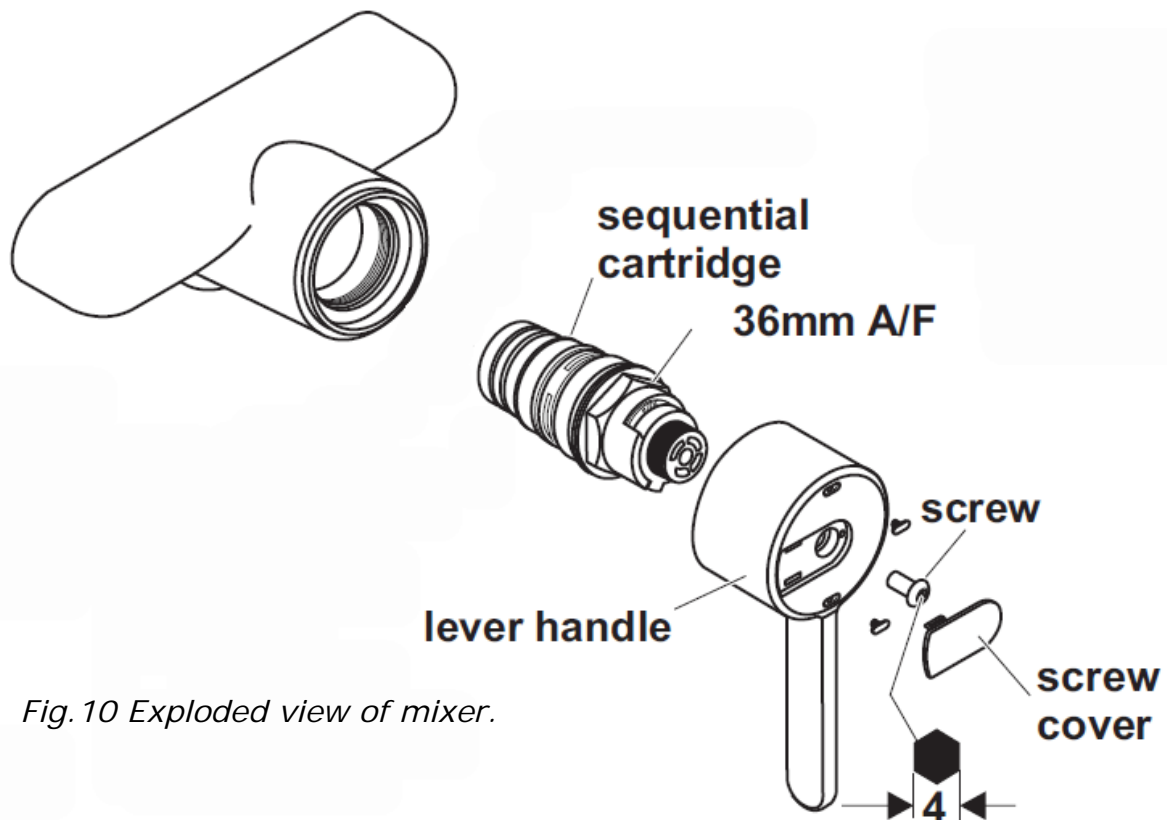

Fig. 10 Exploded view of mixer.
2. Remove the lever by prising out the cover button and unscrewing the retaining screw using a 4mm Allen key. *See fig. 10*
Isolate the fitting by turning the isolating valves 90° *in either direction, see fig. 10.*